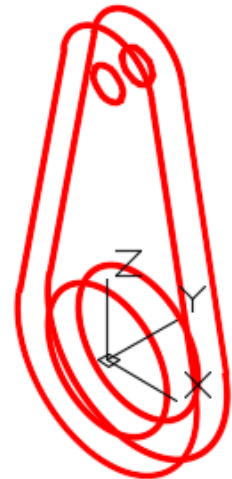

Figure Step 7
Step 7 Using what you learned in Step 6, rotate the model 90 degrees around the Y axis. This rotation will have be negative 90 degrees since the rotation is clockwise. (Figure Step 7)